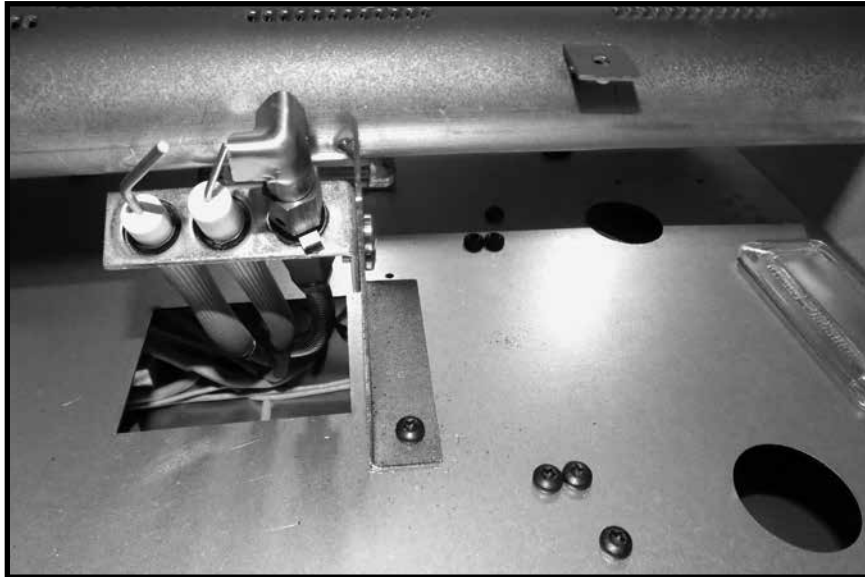

Figure 9: Securing the burner leg to the secondary floor panel.
10. Slip the gas burner venturi over the orifice and screw the burner leg to the secondary floor panel using a T20 screw (Figure 9).